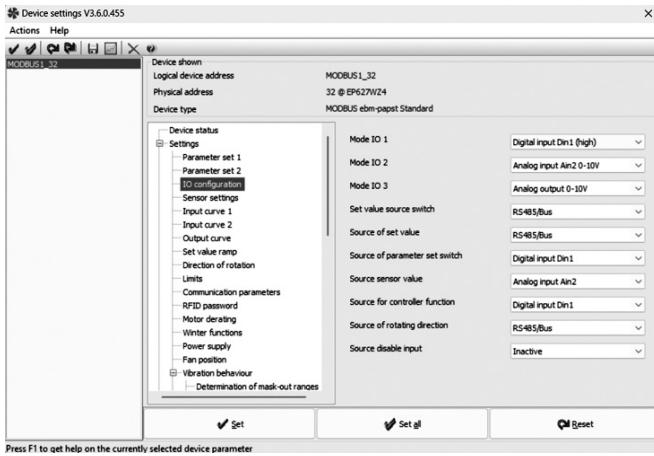

Fig. 24 — EC-Control Setting IO Configuration
- Set the following parameters to match Fig. 24.